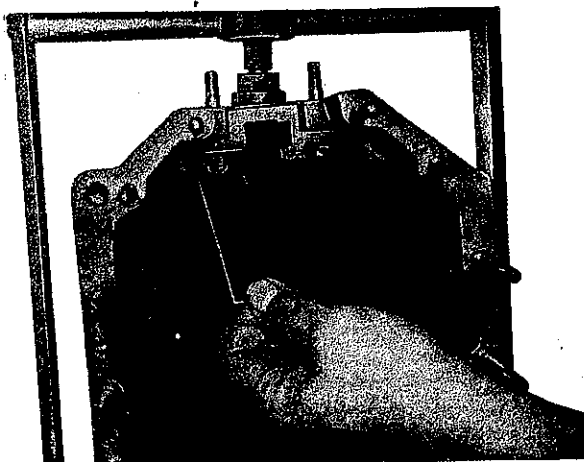

Fig. 23
Attach splashboards (619) together with guide piece (620) to housing rear end seen in driving direction to the right (Fig. 23) or with guide piece (621) to front end seen in driving direction to the left. Then provisionally attach the three shift forks (604, 606 and 608) with joint pins (605 and 602) in housing. Place shift rods (601 and 602) into guide piece (620) and attach to shift forks. Slide-on housing front end. Measure distance between rails and splashboards. Distance should be uniformly 0.4 mm on both sides, corrections are made by loosening fastening nuts (102) and by shifting board. Remove shift rods and shift forks again.